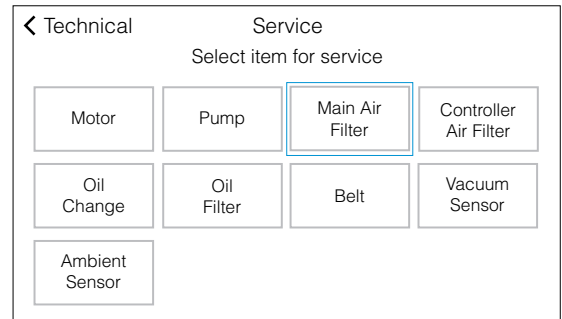

FIGURE 49. PRESS MAIN AIR FILTER
7. On the Service screen, press **MAIN AIR FILTER** (FIGURE 49).